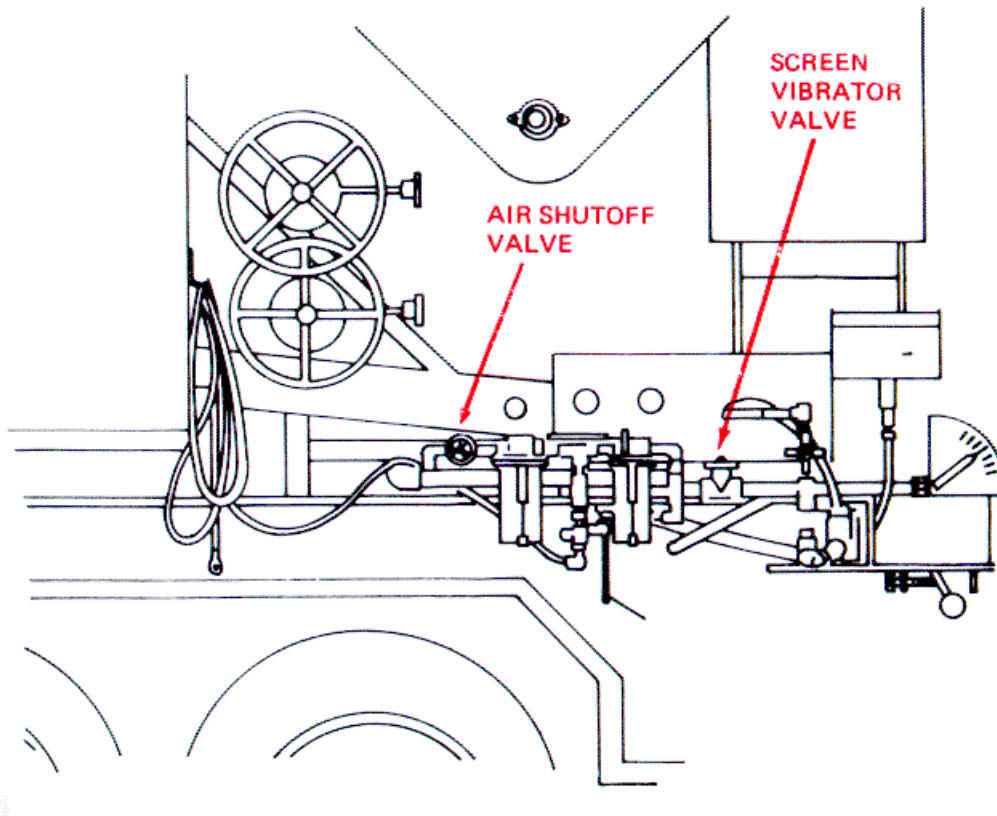

Figure 2-18. Air Shutoff Valve.
- a. Open the air shutoff valve and the screen vibrator valve by turning them all the way counterclockwise (fig. 2-18).
- g. Close the air shutoff valve and the screen vibrator valve by turning them all the way clockwise (fig. 2-18)